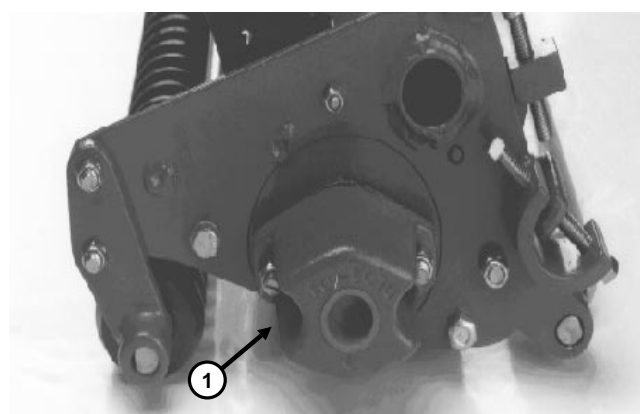

Figure 6
1. Remove mounting nuts from counterbalance end cap and remove end cap from the mounting studs (Fig. 6).